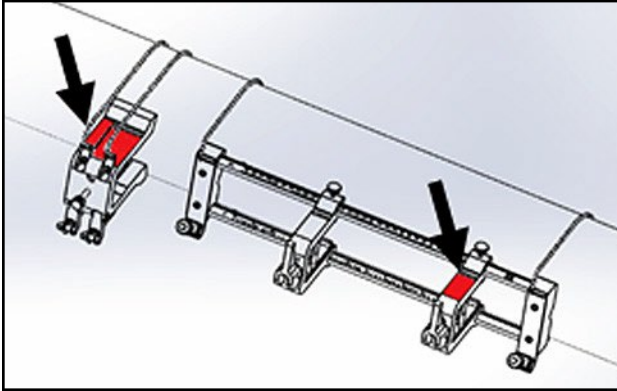

Figure 38: Yoke Rotated into Horizontal Position
4. Rotate the yoke until it is located in a horizontal position on the same side of the pipe as the previously installed clamping fixture, as shown in Figure 38 below.
5. Ensure that the top surfaces of the yoke bracket and the fixed clamping fixture bracket lie precisely in the same horizontal plane (see Figure 38 above).